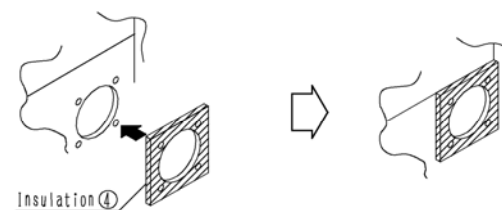

Fig. 2
2. Adhere the insulation ④ for opening of unit to the opening. (Fig. 2)